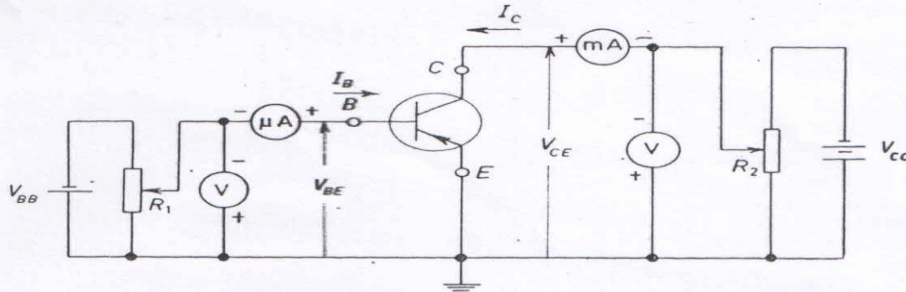
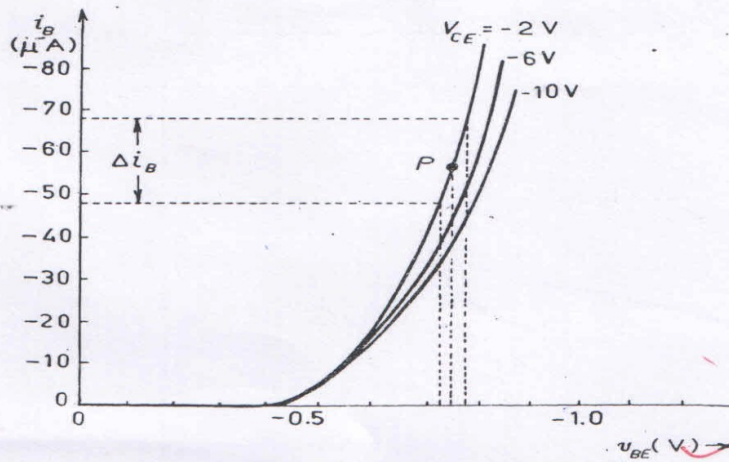
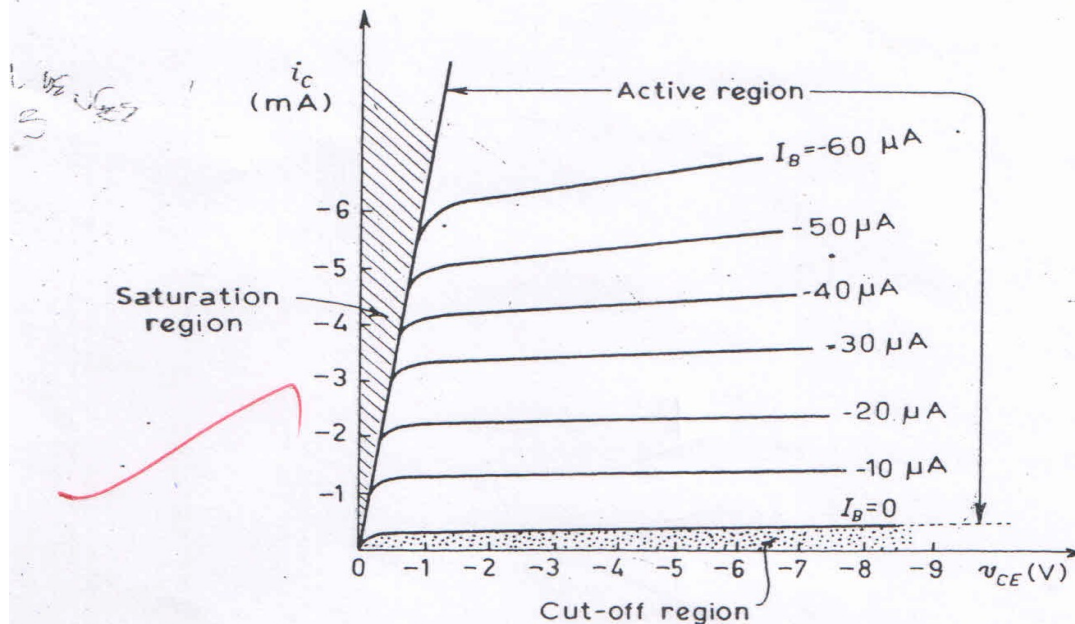

Fig. 5.17 Circuit arrangements for determining the static characteristics of a PNP transistor, in CE configuration
Fig. 5.18 Common-emitter input characteristics of a PNP transistor
Fig. 5.19 Common-emitter output characteristics of a PNP transistor
Input CE Characteristics In CE configuration, i_B and v_{BE} are the input variables. The output variables are i_C and v_{CE} . We can use the circuit arrangement of Fig. 5.17 to determine the input characteristics of a PNP transistor (for an NPN transistor, terminals of all the batteries, milliammeters and voltmeters will have to be reversed). Typical input characteristics are shown in Fig. 5.18. They relate i_B to v_{BE} for different values of V_{CE} . These curves are similar to those obtained for CB configuration (Fig. 5.12). Note that the change in output voltage V_{CE} does not result in a large deviation of the curves. In fact, for the commonly used dc voltages, the effect of changing V_{CE} on input characteristics may be ignored.
We can find out the *dynamic input resistance* of the transistor at a given voltage V_{BE} , from Fig. 5.18. It is given by the reciprocal of the slope of the curve at that point. That is,
is calculated from Fig. 5.18, as follows:
Output CE Characteristics From the circuit arrangement of Fig. 5.17, we can also determine the output characteristics of a PNP transistor. Figure 5.19 shows typical output characteristics of a PNP transistor. They relate the output current i_c , to the voltage between collector and emitter, v_{CE} , for various values of input current, I_B . Note that the quantities v_{CE} , i_c and I_B are all negative for a PNP transistor. If the transistor is NPN type, we reverse the terminals of the batteries V_{CC} and V_{BB} , so that v_{CE} , i_c and I_B become positive.
- (i) In the active region, i_c increases slowly as v_{CE} increases. The slope of these curves is somewhat greater than the CB output characteristics (see Fig. 5.13). We know that β_{dc} is equal to the ratio I_C/I_B . For each curve of Fig. 5.19, the input current I_B is constant, but current i_c increases with v_{CE} . This indicates that β_{dc} increases with v_{CE} .